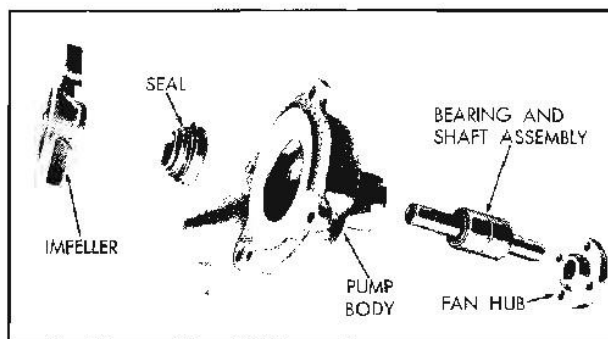

Fig. 6A-22 Water Pump - Exploded View (6 Cyl.)
6. Support pump in an arbor press as shown in Figure 5. Press shaft bearing and impeller assembly out of pump, applying pressure on the outer race of the shaft bearing only (Fig. 6A-20).